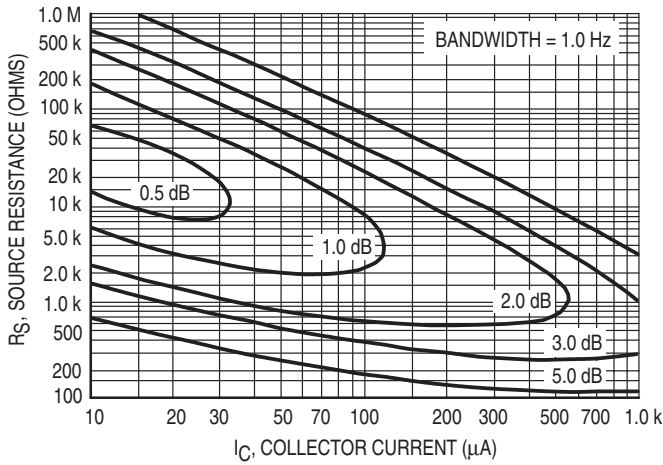

Figure 3. Narrow Band, 100 Hz
- e_n = Noise Voltage of the Transistor referred to the input. (Figure 3)